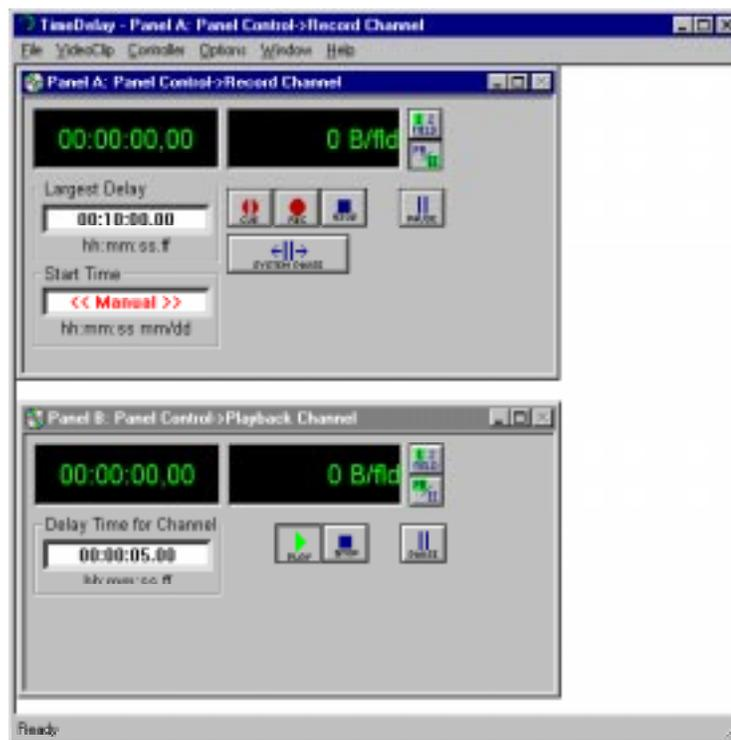

Figure 135. TimeDelay window with record/playback pair
1. Double click on the TimeDelay shortcut icon on the desktop to start the application. Figure 135 illustrates the TimeDelay panels. TimeDelay starts in the same panel configuration as it was last saved.